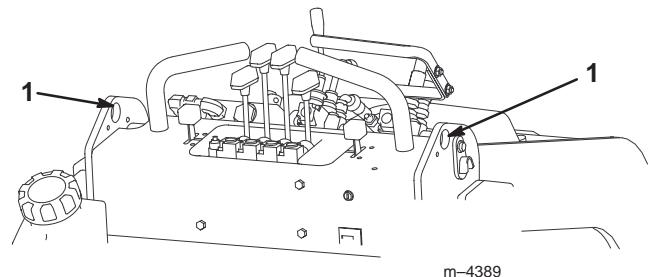

Figure 11
2. Lift the traction unit off the ground, using the two lift points (Fig. 11), and move it onto a trailer.